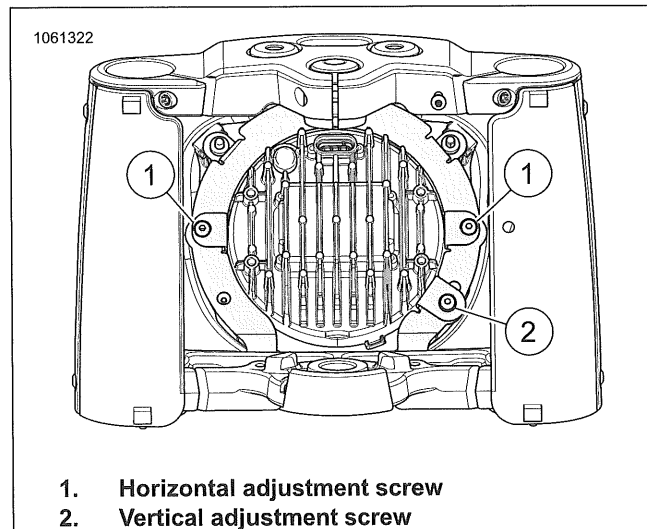

Figure 7-56. Headlamp Adjustment
1. See Figure 7-56. Rotate horizontal adjustment screw (1). Adjust headlamp horizontally to direct light beam straight ahead.
2. Rotate vertical adjustment screw (2). Adjust headlamp vertically until beam centers on horizontal line.